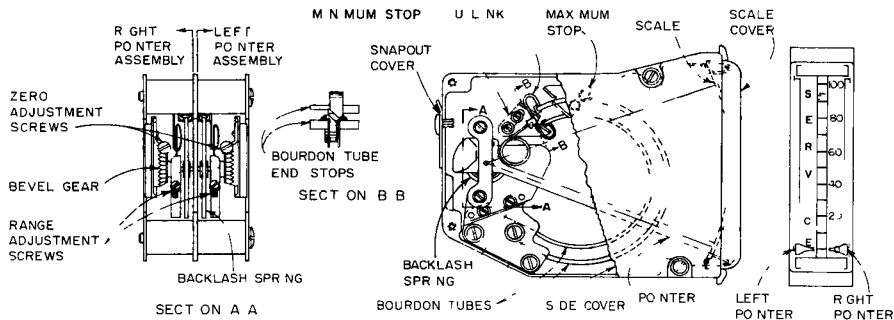

FIGURE 8 Vertical Gage Unit Adjustments
- a Apply pressure to gage equivalent to first major scale division above 0% scale. If pointer does not read correctly, turn zero adjustment screw (Figure 8) until desired reading is obtained.
b Apply pressure to gage equivalent to first major scale division below 100% scale. If pointer does not read correctly, turn range adjustment screw (Figure 8) until desired reading is obtained.
7 Apply 2 psig to Bourdon tube (pointer will read slightly below minimum scale mark). Loosen minimum stop screws (Figure 8) and position minimum stop next to Bourdon tube end stop, tighten screws.